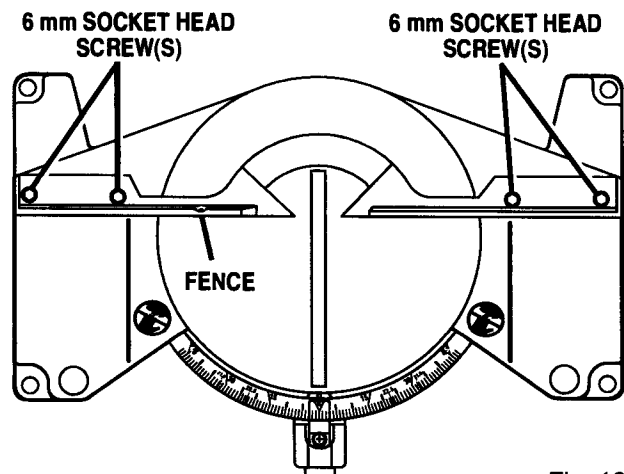

Fig. 16
- Using a 6 mm key, loosen the socket head screws securing the fence. See Figure 16. Adjust the